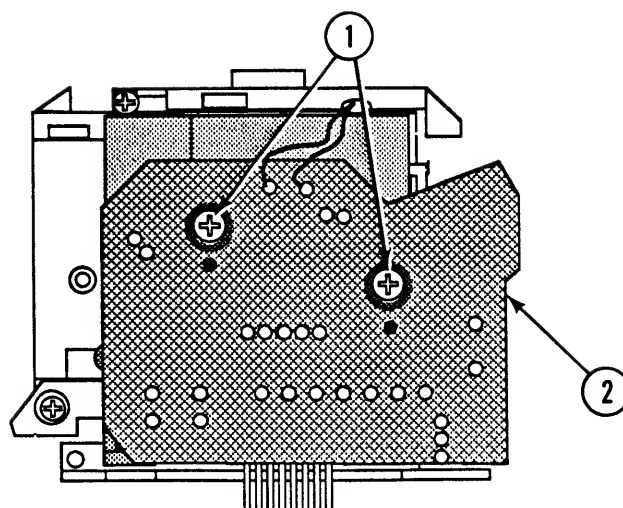

FIGURE 10
7. Remove the two Phillips screws (Figure 10, #1) that secure the fuser PCA (Figure 10, #2) to the fuser assembly. Remove the fuser PCA.